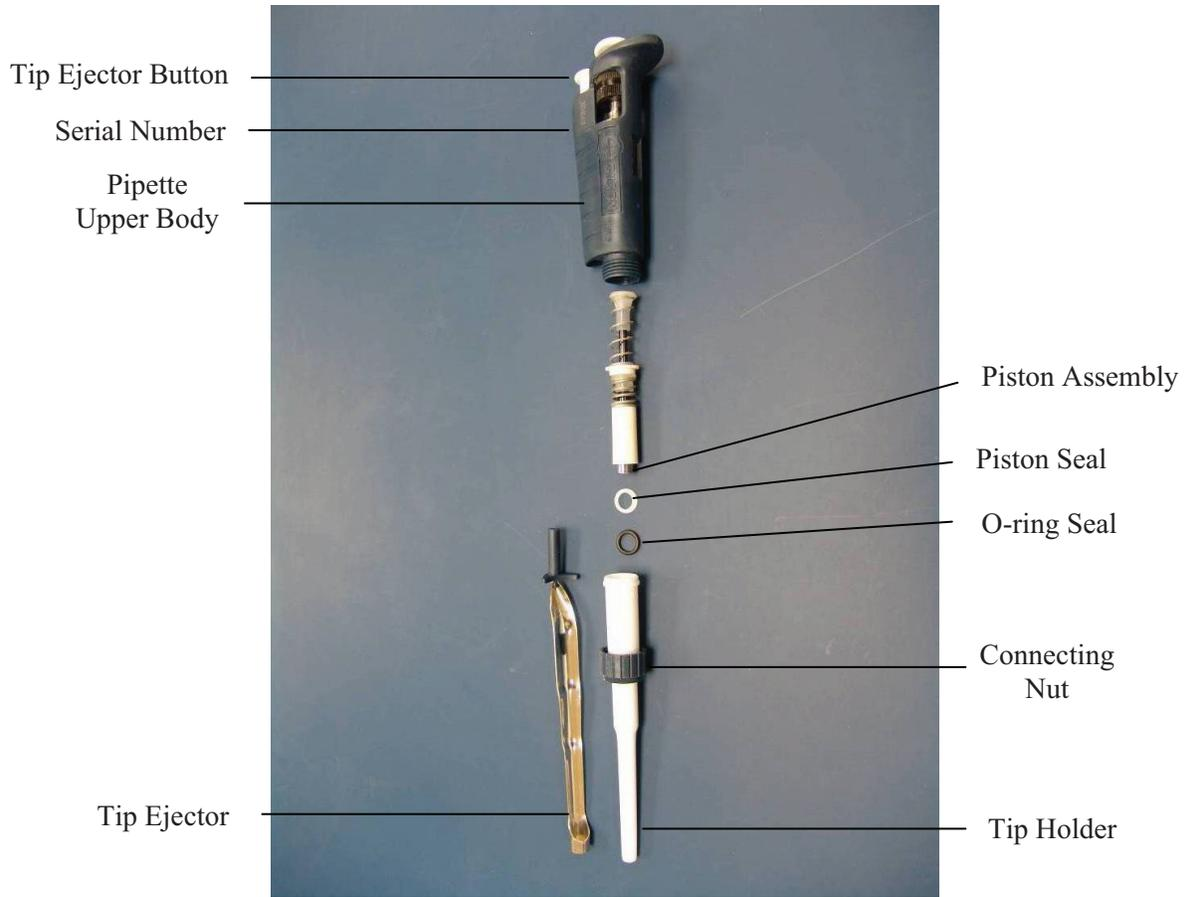

Figure 3: Pipetman® Component Breakout
- 9.3. Figure 3: Pipetman® Component Breakout